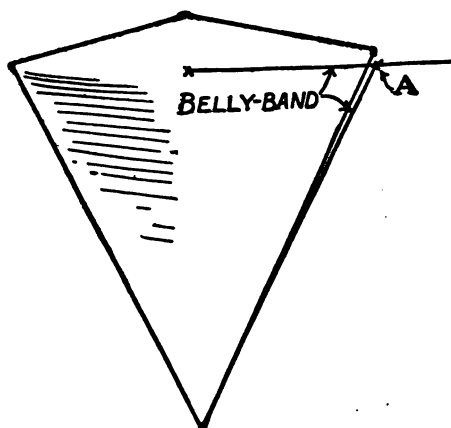
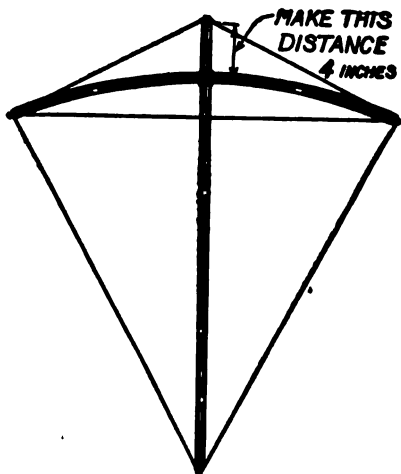

FIG. 18. — Completed Malay Kite with Belly-Band Attached.
FIG. 19. — Framework of Malay Kite.
in flight, Fig. 18 a detail of the completed kite, Fig. 19 the completed framework, and Figs. 20, 21, and 22 the details for preparing the frame sticks.
**Framing the Sticks.** Fasten the bow-stick at its exact center to the vertical stick, placing it 4 inches down from the top of the vertical stick, as indicated in Fig. 19. Drive a couple of brads through the two sticks to hold them
Attach the Bridle at the intersection of the bow-stick and vertical stick, and at the lower end of the vertical stick (Fig. 18), and make it of the right length so when held over to one side it will reach to the end of the bow, as
indicated in Fig. 18. Tie the flying line securely at the point A (Fig. 18); then the kite will be ready for its maiden flight.